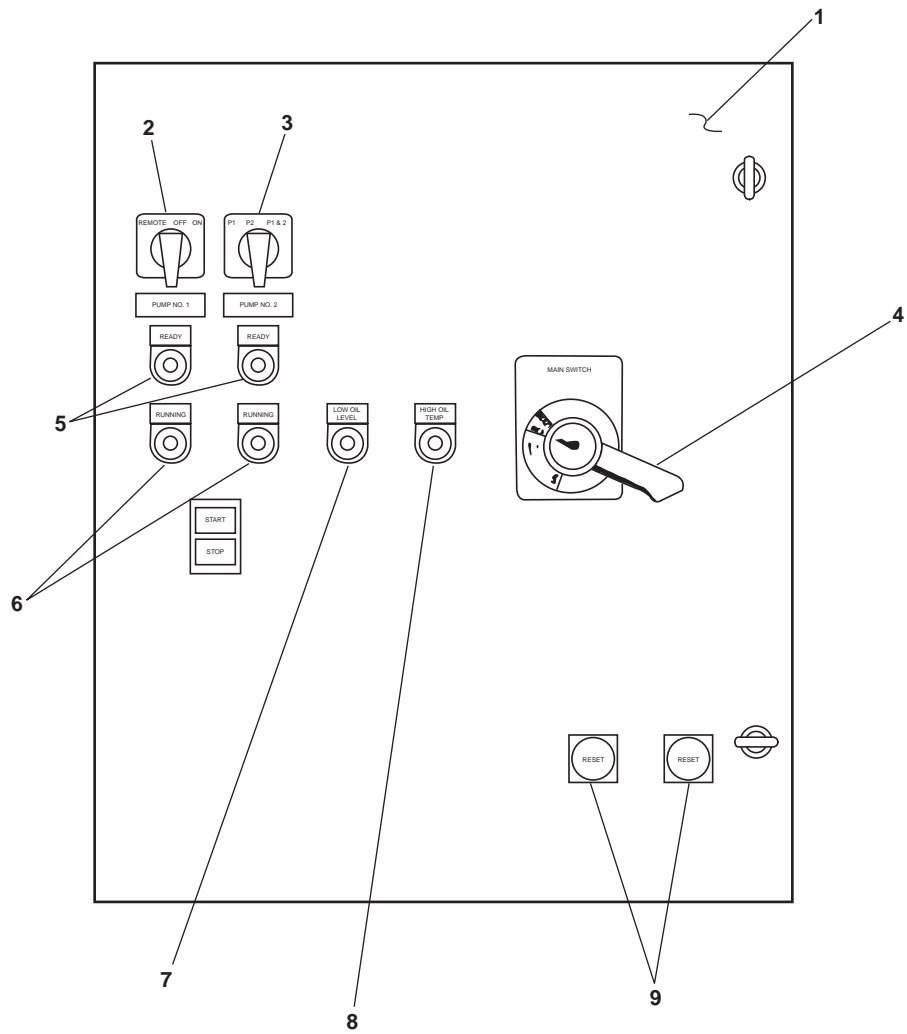
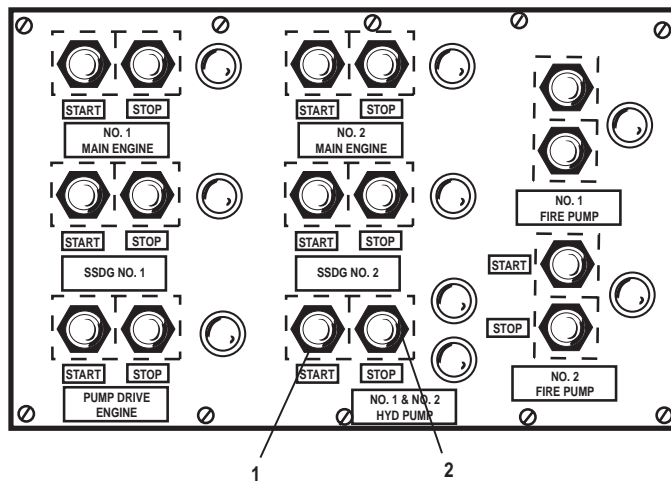

Figure 2. Central Hydraulic Power Unit Motor Controller
Figure 3. Machinery Control Panel in EOS
The central hydraulic power unit motor controller (figure 2, item 1), mounted forward and above the system's reservoir, provides the primary source of control for the central hydraulic system. Remote START/STOP control of the system is also provided via controls on the EOS console (figure 3).
The central hydraulic power unit motor controller contains a REMOTE/OFF/ON selector switch (figure 2, item 2). This switch permits the operator to determine whether the ON/OFF control will be achieved locally (OFF and ON positions) or remotely (REMOTE position) from the EOS. The P1/P2/P1&P2 selector switch (figure 2, item 3) permits the operator to select which pump(s) will operate when the system is turned ON. The MAIN SWITCH (figure 2, item 4) is the primary power disconnect for the system's electric power. READY (figure 2, item 5) and RUNNING (figure 2, item 6) indicator lights are provided for each pump to indicate the pump's condition. LOW OIL LEVEL (figure 2, item 7) and HI OIL TEMP (figure 2, item 8) lights are also provided to signal these alarm conditions. The final components of the control panel are the reset switches (figure 2, item 9). These pushbutton switches permit the operator to reset the electric motor(s) after the thermal resets have tripped.
When the main disconnect switch (figure 4, item 1) is CLOSED (ON), power is supplied to the control panel (figure 2, item 1).
If the REMOTE/OFF/ON switch (figure 4, item 3) is in the OFF position, the switch is OPEN and no power is supplied to the low oil level switch's (figure 4, item 4) Normally Closed (NC) contacts. If the switch is in the ON position, the switch is CLOSED between terminals 13 and 14, supplying power to the low oil level switch's NC contacts. If the switch is in the REM position, the switch is CLOSED between terminals 21 and 22, supplying power to the REMOTE/OFF/ON switch (figure 4, item 3) in the EOS console. When the START pushbutton (figure 3, item 1) is pressed, the switch CLOSES, supplying power to the low oil level switch's NC contacts. When the STOP pushbutton (figure 3, item 2) is pressed, the switch is OPEN, securing power to the low oil level switch's NC contacts.